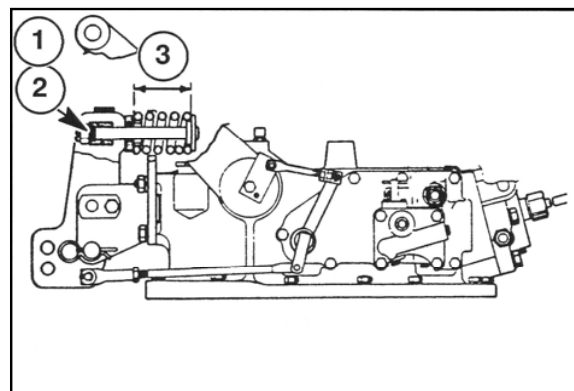

Figure 2-54
Remove the cotter pin (1) in Figure 2-54, and rotate nut (2) in Figure 2-54, to adjust the main spring length (3) in Figure 2-54, to 77 mm and secure with the cotter pin.